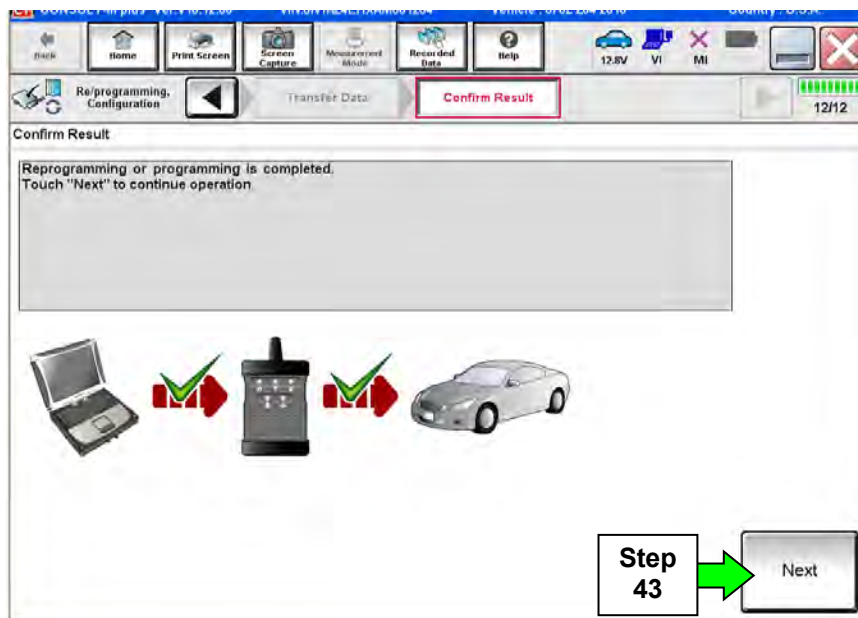

Figure 22
41. When the screen in Figure 22 displays, the reprogramming is complete.
**NOTE:** If the screen in Figure 22 does not display (which indicates reprogramming did not complete), refer to the information on the next page.